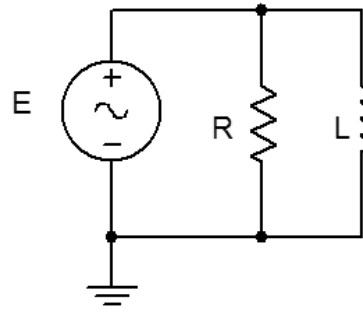

Figure 7.2
8. Replace the capacitor with the 10 mH inductor (i.e. Figure 7.2), and repeat steps 1 through 7 in like manner, using Tables 7.3 and 7.4.
4. In general, how would the phasor diagram of Figure 7.2 change if the frequency was lowered?